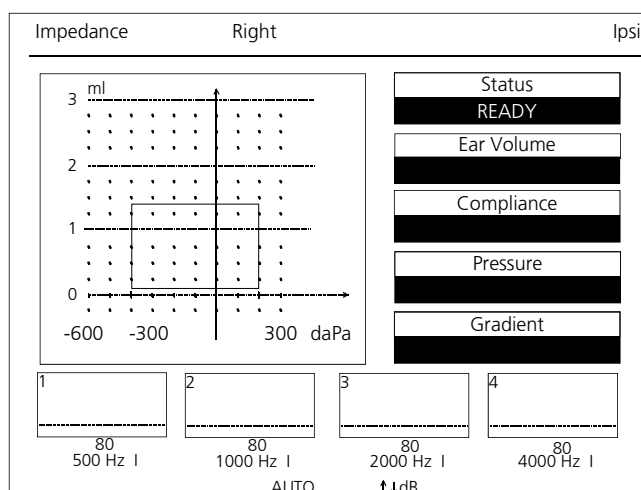

Figure 20 Display Tympanogram + Reflex (ready for measurement)
Set the desired volume level with the Down-key ⑩ respectively the Up-key ⑪. On the LCD display ⑤ below the reflex boxes at the bottom the selected level in dB (in example figure 20, 80 dB) appears. The "I" indicates that an ipsilateral test is selected. You can choose between the fixed levels 70, 75, 80, 85, 90, 95 and 100 dBHL and AUTO with a starting level of 70 or 80 dBHL. If you choose AUTO the MI 34 starts with the lowest level 70 dBHL or 80 dBHL and increases the level automatically until a reflex is registered or the maximum value is reached. You can choose your individual starting